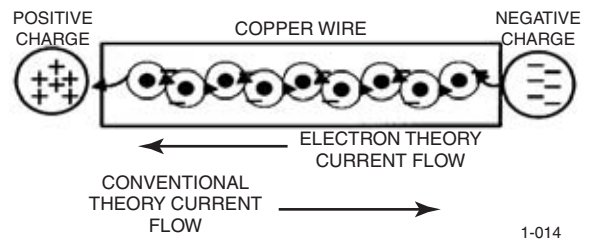

Figure 3-5. Current flow.
The movement of electrons in a circuit is the flow of electricity, or current flow (Figure 3-5), which is measured in **amperes** (A). This unit expresses how many electrons move through a circuit in one second. A current flow of 6.25×10^{18} electrons per second is equal to one ampere. A coulomb is 6.281×10^{18} electrons per second. 1 coulomb/sec=1 ampere.